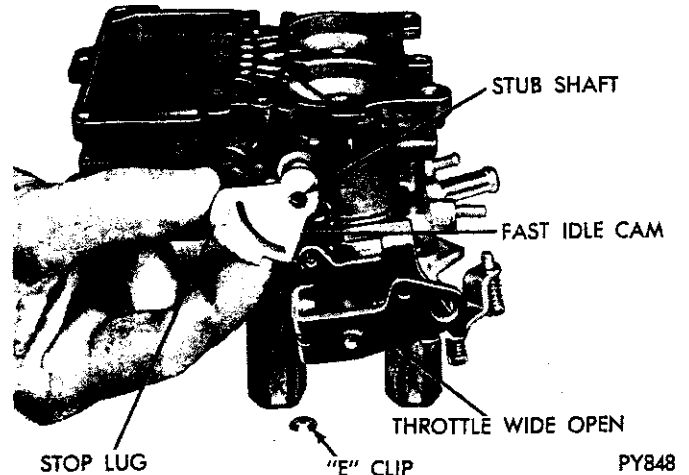

Fig. 14—Removing or Installing Fast Idle Cam
(19) Remove fast idle cam retaining "E" clip, then slide fast idle cam off stub shaft. (Fig. 14).
(20) Invert main body and remove throttle body to main body attaching screws. Separate bodies and discard gasket.
(21) Turn idle limiter caps to stop. (Top on throttle lever side and bottom of stop on other.) Remove idle limiter caps by prying off with suitable tool. (Be careful not to bend screws.) Be sure and count number of turns to seat the screws, as the same number of turns (from the seat) must be maintained at installation.
(6) Install fast idle cam on air horn stub shaft, with steps toward fast idle adjusting screw. Install "E" clip to secure. (Fig. 14).